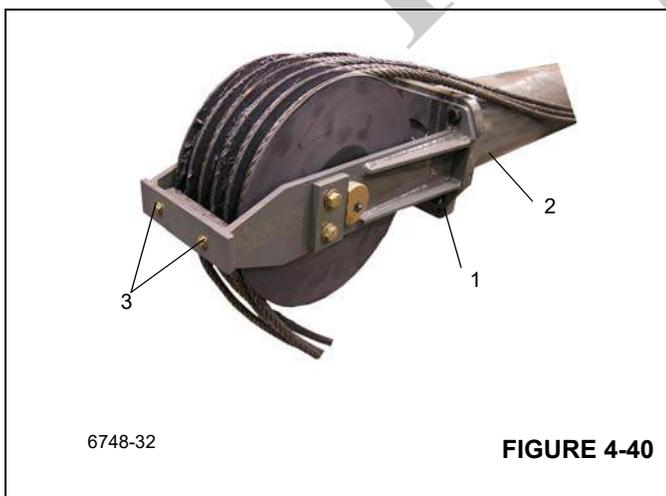

FIGURE 4-40
4. Install the Telescope Cylinder Sheave Mount and sheave assembly (1), (Figure 4-40) to the Telescope Cylinder (2), (Figure 4-40).
- b. Do not install the cable retainer with the hardware (3), (Figure 4-40) until the Extend Cables are reeved around the sheave.
6. Reeve the five extend cables around the Telescope Cylinder sheave (Figure 4-40).
7. Install cable retainer (3), (Figure 4-40) as referenced in Step 4b above.